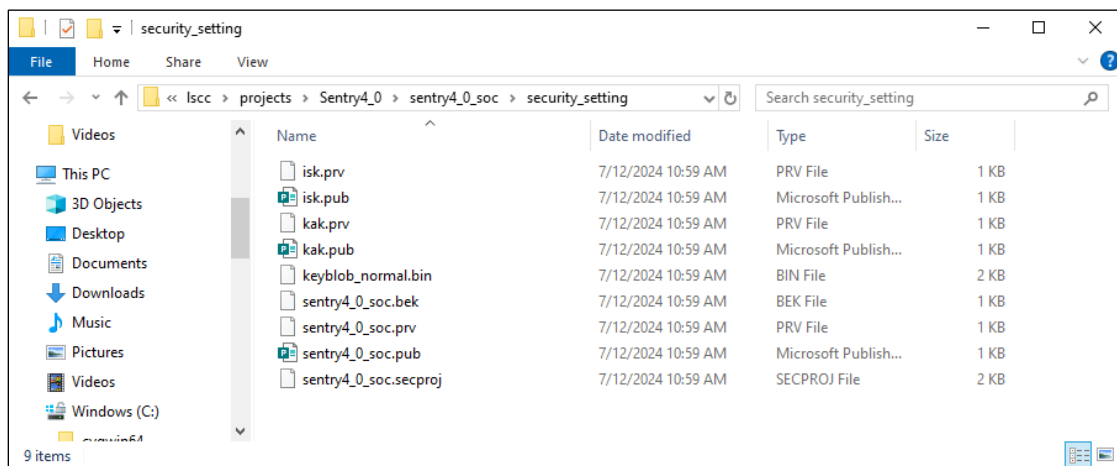

Figure 4.14. Security Setting Directory
3. After you click **OK** in this dialog box, the keyblob and keys are stored in a Security Setting directory in the following location: <Workspace>/<SoC Project>/security_setting (Figure 4.14).